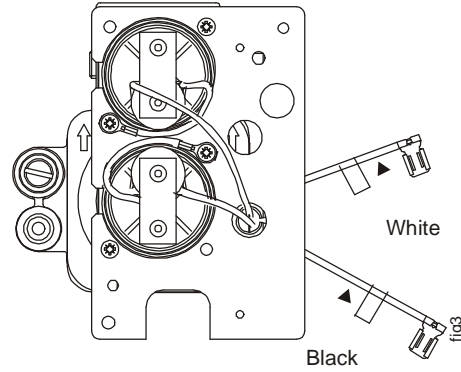
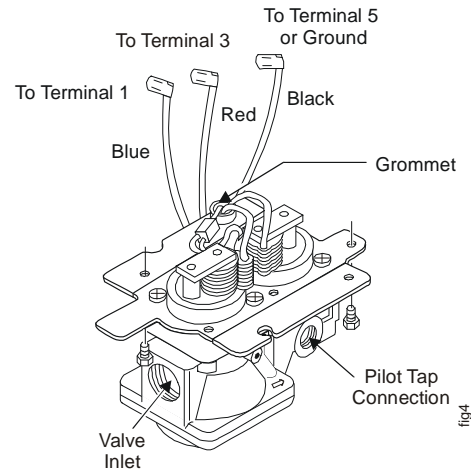

**Figure 1: Terminal Board Ignition Control with Mounting Plate**
**Figure 2: Plug-In Heyco Ignition Control**
8. Disconnect the Pilot Valve 1 and Main Valve 3 leads from the terminal board or 5-end plug-in Heyco terminals (Figure 1 and Figure 2).
- a. On grounded versions (part numbers ending with the letters H, L, G, or J (for example, G60QBG or G60QBJ), connect the black lead wire to one of the ground terminals on the ignition control. Four ground spade terminals are located just below the terminal board on terminal board models (Figure 1) or in a square arrangement on the end of the plug-in Heyco models (Figure 2).